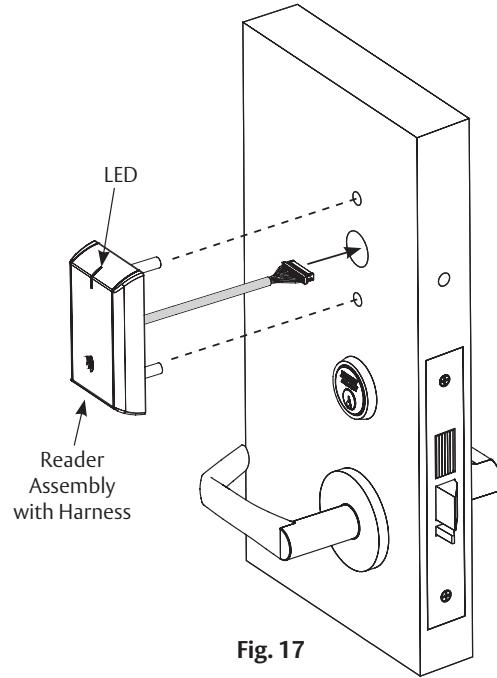

Fig. 17
- Orient reader so LED lens is at top. (Figure 17)